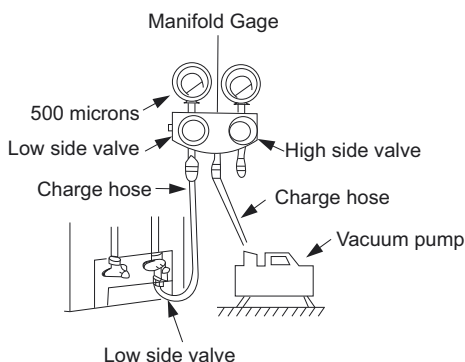

Fig. 28 – Manifold
- 3 Fully open the low side of manifold gage (see Fig. 28).